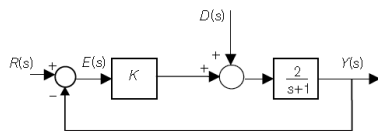

Figure 9.3 Control system for design problem.
37. Consider the system shown in Figure 9.3. What are the values of gain K which will achieve the following design specifications?